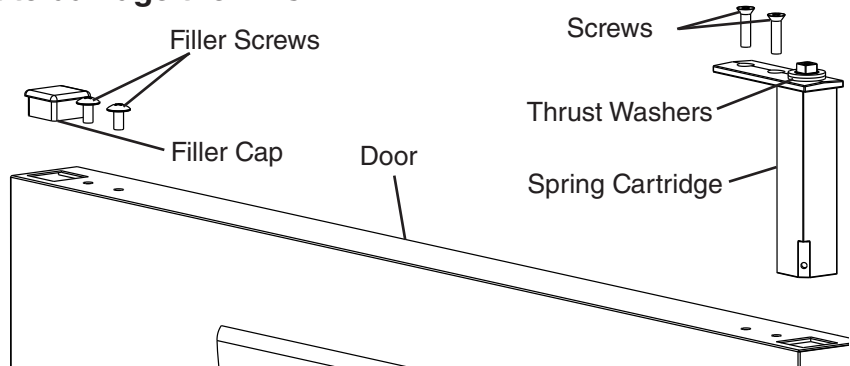

Fig. 15
- 8) Remove the filler cap, filler screws, and spring cartridge. See Fig. 15. Leave the thrust washers in place on the spring cartridge. **NOTICE! Spring cartridge may be difficult to remove. Be careful not to damage the finish.**